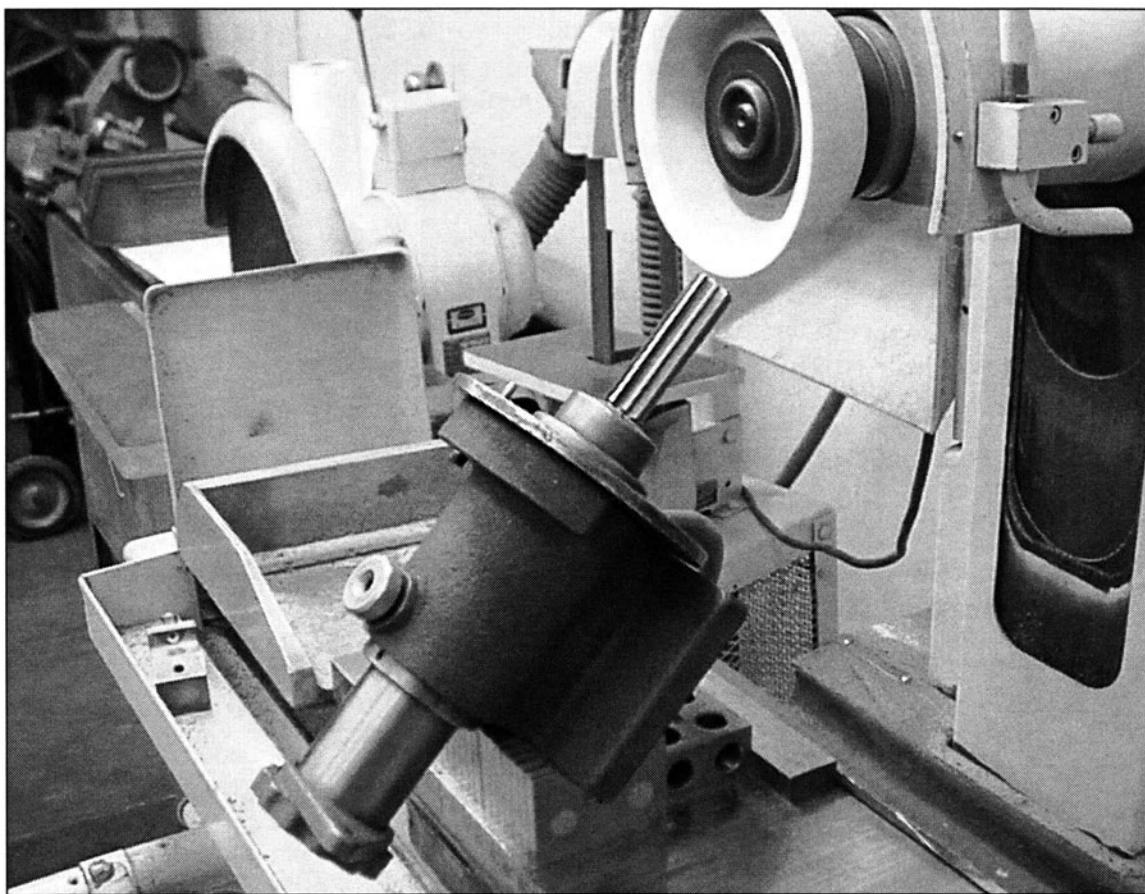

FIGURE 7-22 The tips of reamers are the first things to wear out and can be resharpened in a surface grinder.
27. *Regind reamer tips. (See Fig. 7-22)*